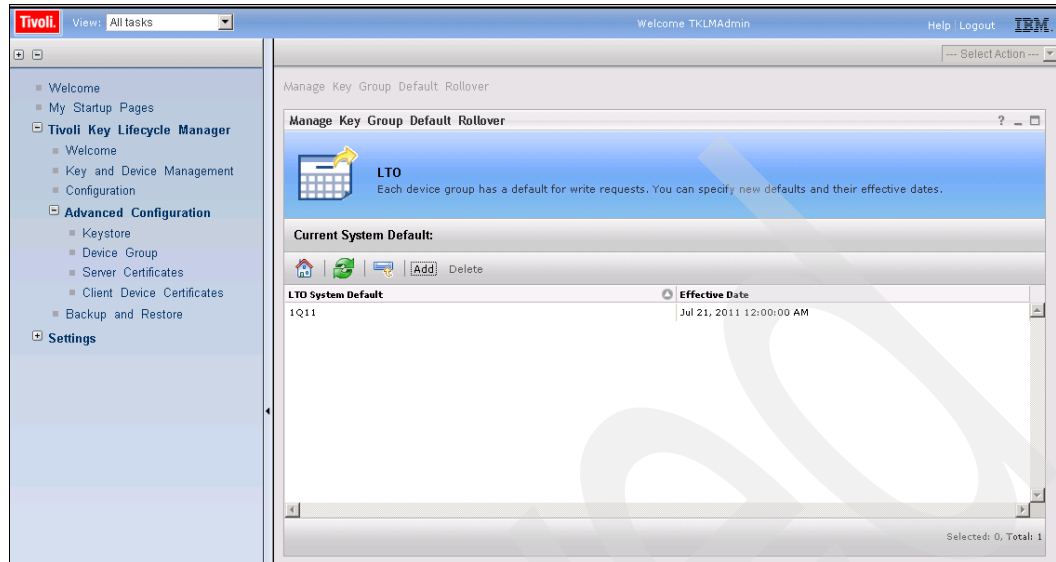

Figure 9-69 Successful rollover
5. The successful scheduling of the rollover is indicated as shown in Figure 9-69.